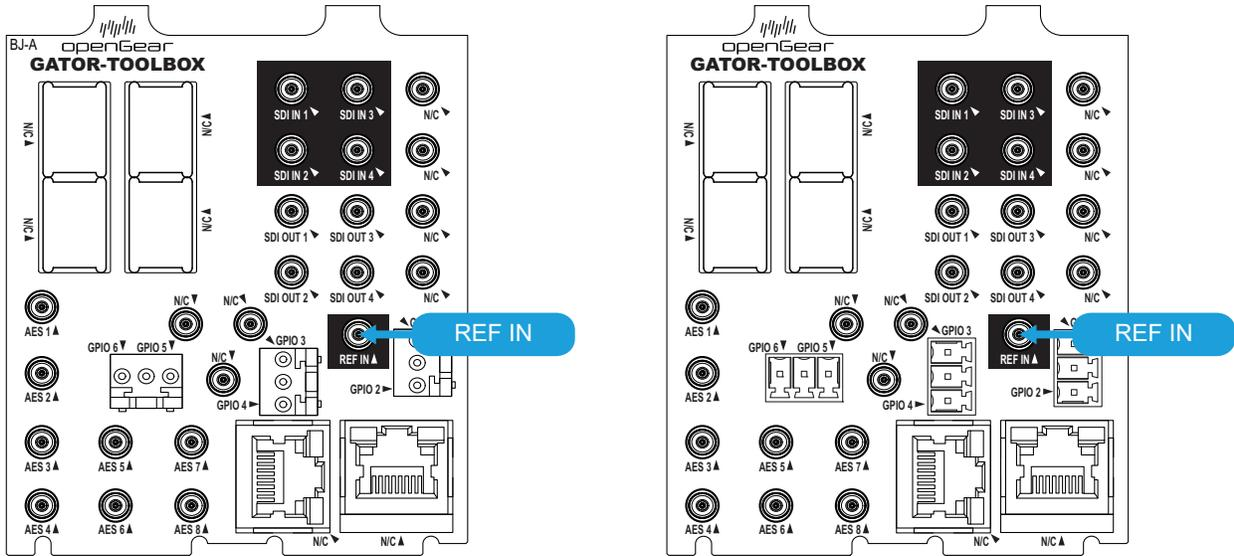
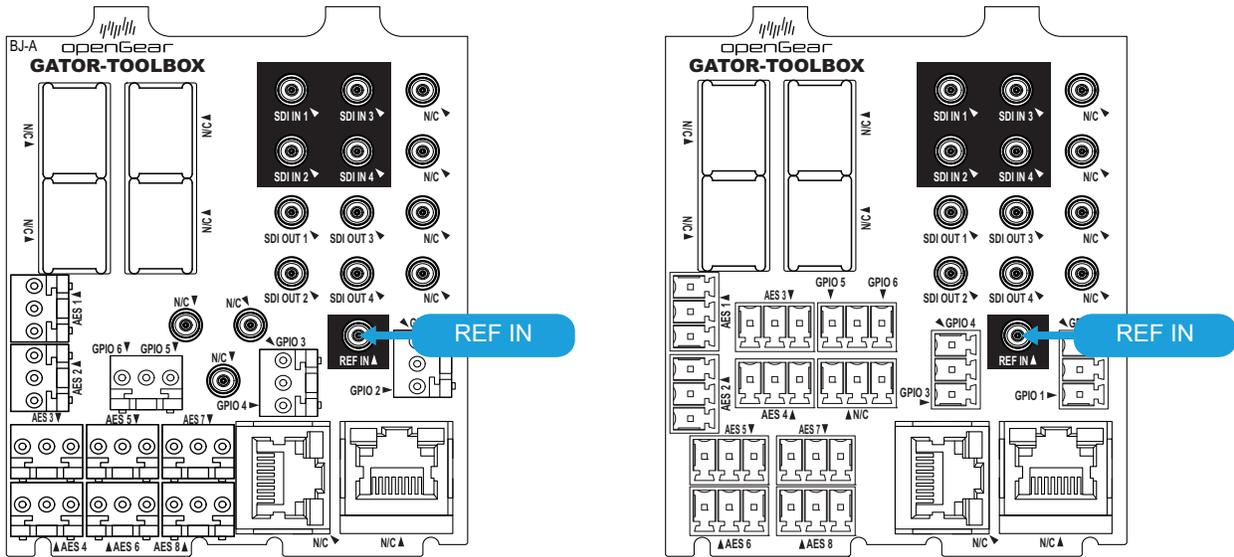
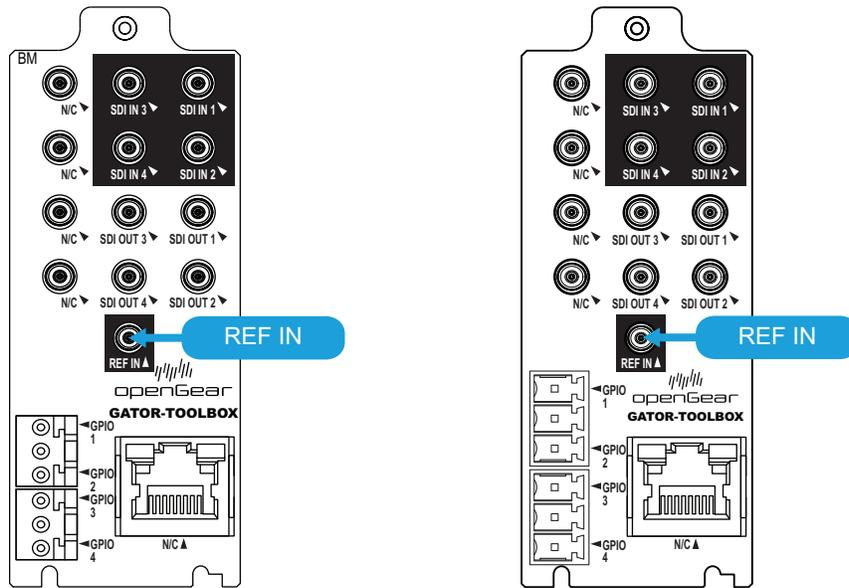

Figure 15 R3A-GATOR — REF IN
Figure 16 R3B-GATOR — REF IN
Figure 17 R4-GATOR — REF IN
1. Connect one end of a cable to the **REF IN** HD-BNC on the GATOR-TOOLBOX rear module. Refer to **Figure 15**, **Figure 16**, or **Figure 17**.